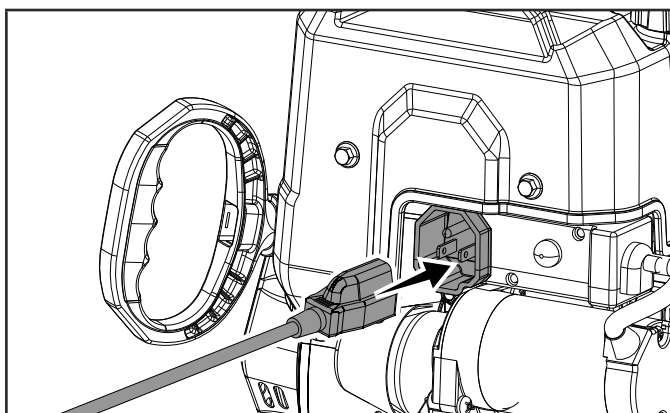

Figure 19
- Alternatively, for electric start, plug in the supplied electrical cord into the starter. Press the electric start button and make sure that the mains supply voltage is 120 V~ 60 Hz (Fig. 19).